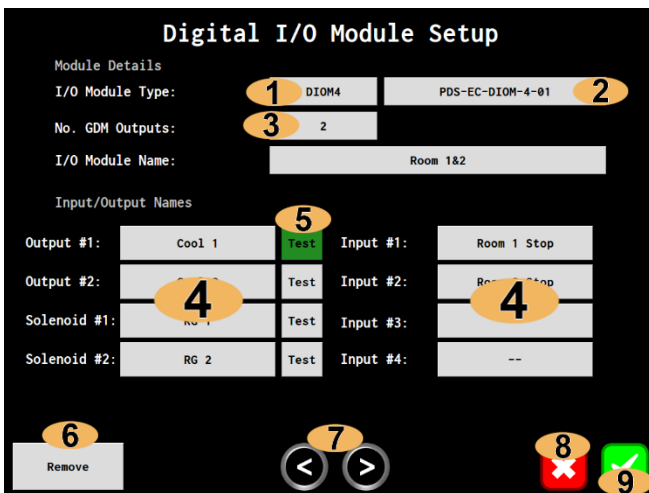

Figure 21: Digital I/O Module configuration screen.
- 1 Digital I/O Module list:** Opens DIOM configuration screen. When the button is red the DIOM is disconnected. *See Figure 21: Digital I/O Module configuration screen.*
- 2 Add New:** Adds a new DIOM, tapping on this will opens the DIOM configuration screen, *See Figure 21: Digital I/O Module configuration screen.*